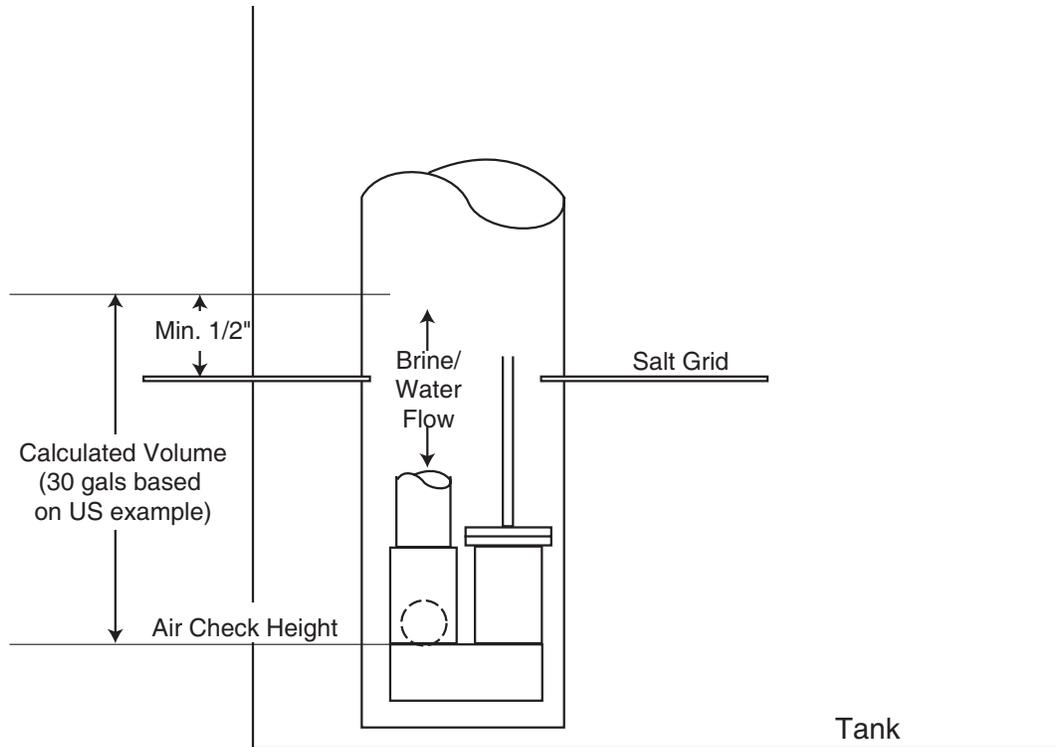

Figure 13
- Load brine tank with salt. Water level will go higher. Mark tank water level and set up float to close refill at that height. Salt needs to cover water at all times. See Figure 13.